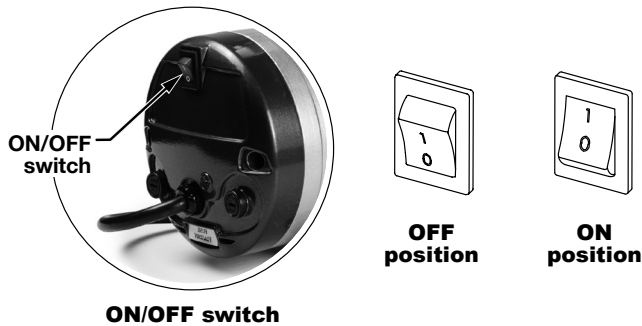

Figure 3
1. **Ensure the ON/OFF switch located on the side of the unit is in the OFF position (Figure 3).** Plug the aspirator into a properly grounded power outlet.
2. Switch the ON/OFF switch to "I" position (ON) (Figure 3); the unit will start running.
6. Switch the ON/OFF switch to the OFF position to shut off the suction motor (Figure 3).